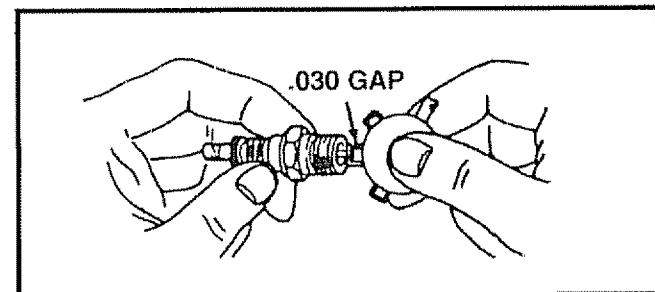

FIG. 21
- Clean the spark plug and reset the gap periodically to .030 inch (See Fig. 21).